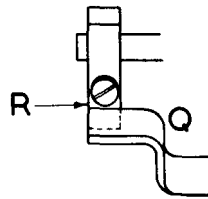

FIGURE 28E
20F. Ribbon Lifting (Red) (Figs. 28E, 28G and 28H)
- 20F.3 Adjust arm R so that it touches the trip lever Q and, at the same time, position the arm so that its side is flush with the end of lever Q as in Fig. 28E. Tighten screw AB.